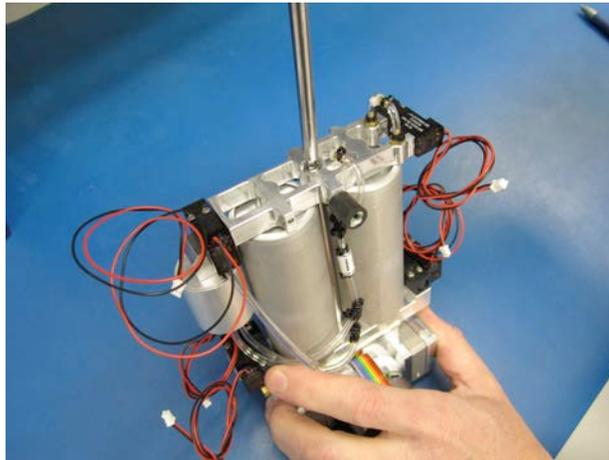

Figure 5.16
2. Stand the PSA assembly upright and loosen the center bolt using 5/32” Allen wrench. (See Figure 5.16.)